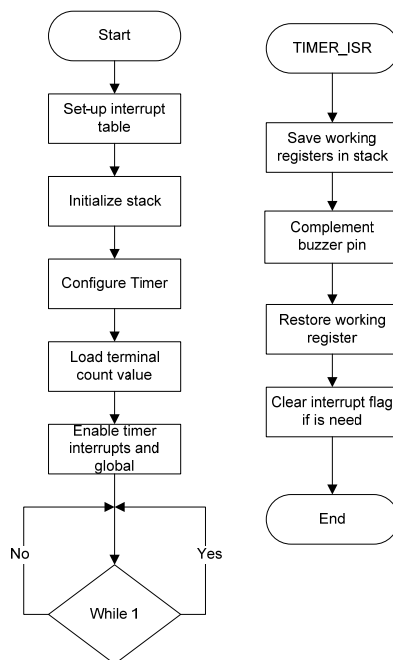

Figure 6, Timer with interrupt flowchart
4. Write a timer ISR to generate the audible frequency on buzzer see figure 6.